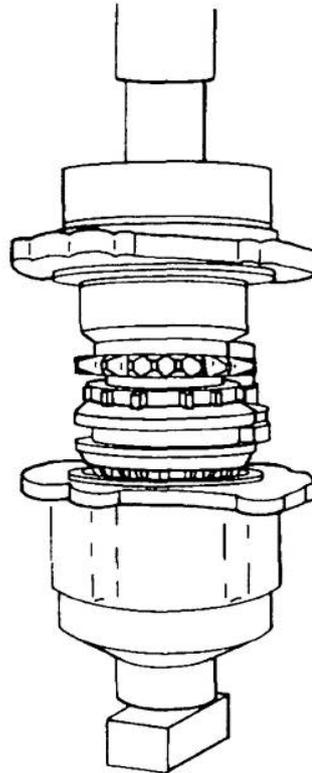

Figure 224 Installation of the Torque Limiter Housing
- j. Support the torque limiter housing and carefully press the torque limiter and ball bearing assembly into the recess ensuring that the output shaft is centred in the mounting face (Figure 224).